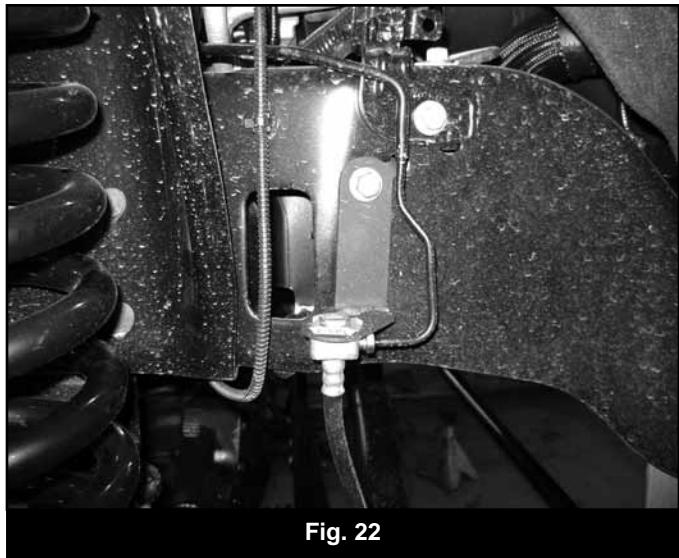

Fig. 22
53. 6" Lift Only: Remove the factory brake line brackets from the frame. Install the new provided brake line brackets and secure with the factory hardware. Carefully reform the brake hard line and install the junction block through the bottom of the new bracket. (Fig 22) Fasten with the original brake line clip.